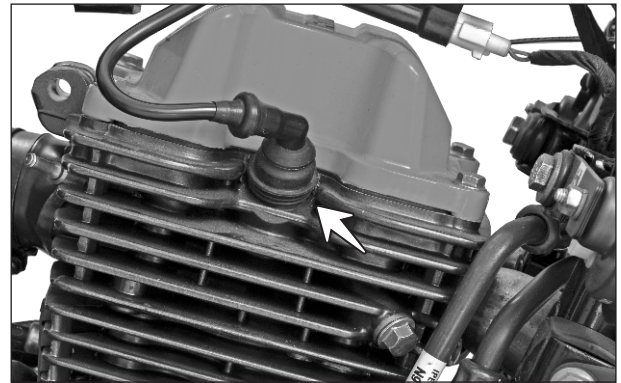

Fig. 3.23
- Disconnect the HT card from the spark plug and remove the spark plug. (Fig. 3.23)